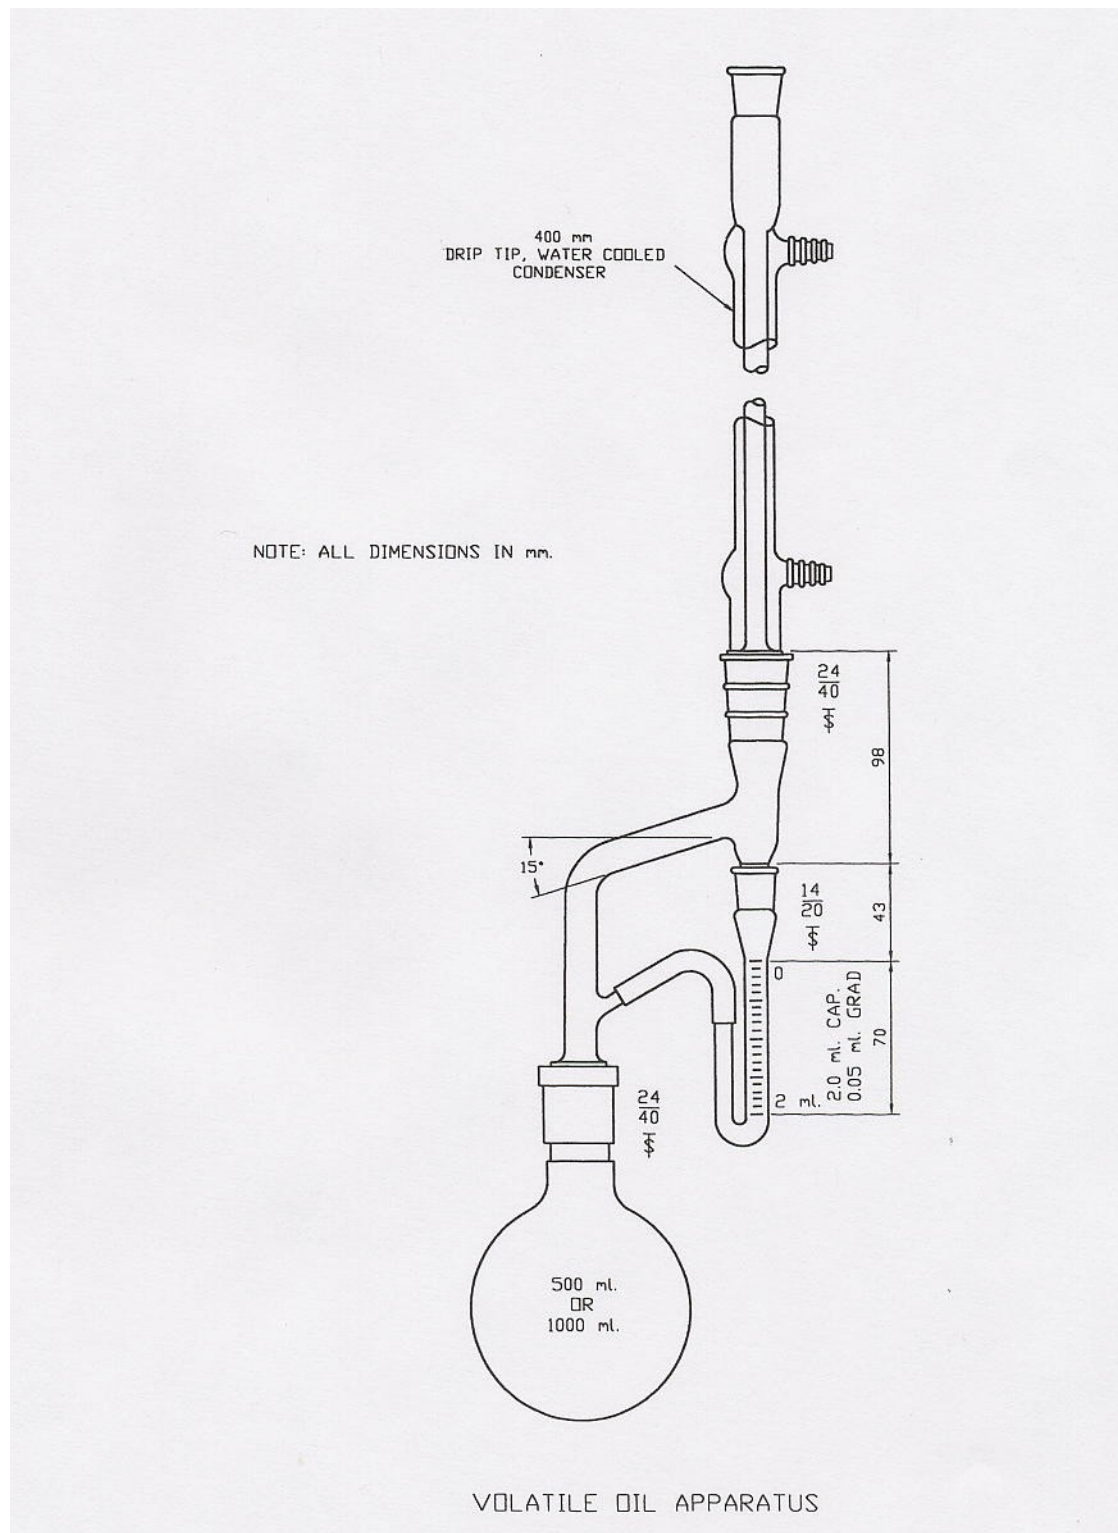

Figure 2. Apparatus assembled for steam distillation (ASTA method 5.1).
3. Assemble the apparatus as shown in Fig. 2, using the proper trap.